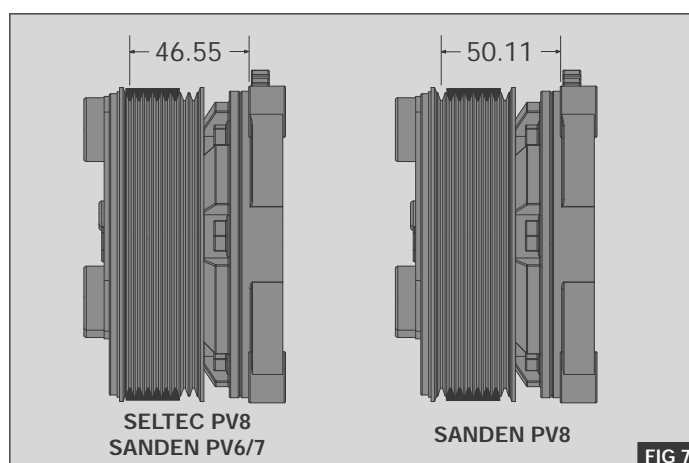

FIG 7
**NB:** Where applicable and dependent on the compressor model, align the supplied drive belt by installing in the correct clutch groove - Fig.7 Seltec PV8 has the same gauge line (46.55) as the Sanden PV6 & PV7, belt is fitted to front groove.